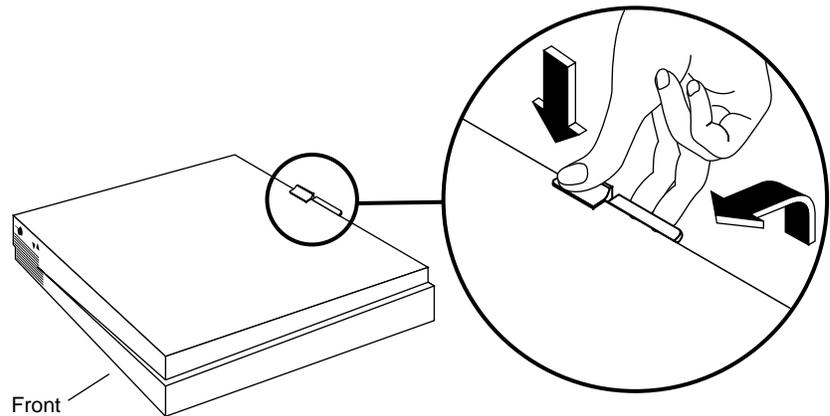

Figure 1-4 Removing the Top Cover From the Indy Workstation
3. Facing the front of the Indy workstation, place your right thumb on the small channel at the back of the cover, and your second and third fingers under the finger ledge, as shown in Figure 1-4.